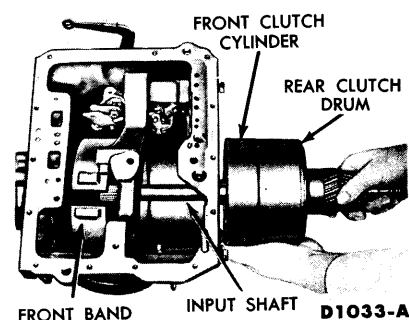

FIG. 28—Input Shaft and Clutch Removal or Installation
18. Exert enough pressure on the end of the input shaft to hold the clutch units together. Then remove the center support, front and rear clutch assemblies as a unit. (Fig. 28).